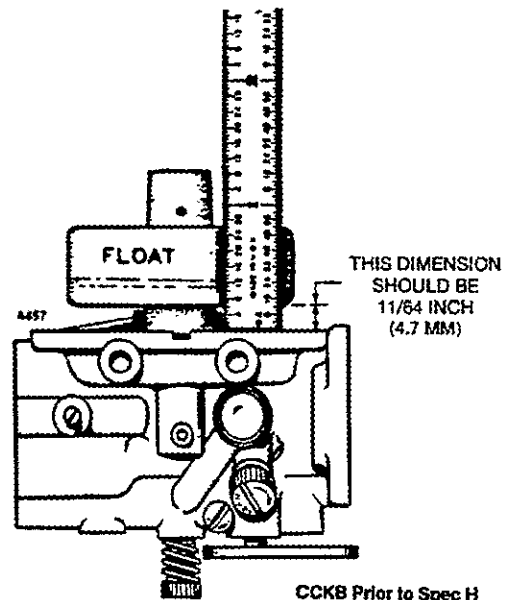

FIGURE 18. CHECKING FLOAT LEVEL
5. Check float level with the carburetor casting inverted. See Figure 18